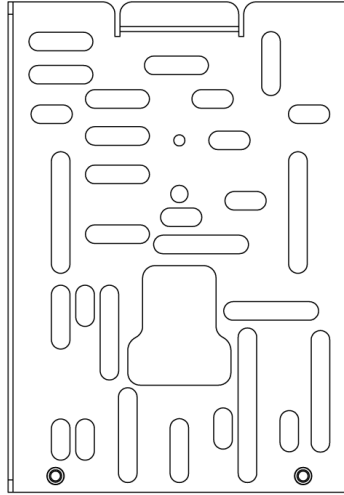

Figure 2. Universal Wall Bracket
1. Mount the universal wall bracket, shown in Figure 2, using the two screws provided.